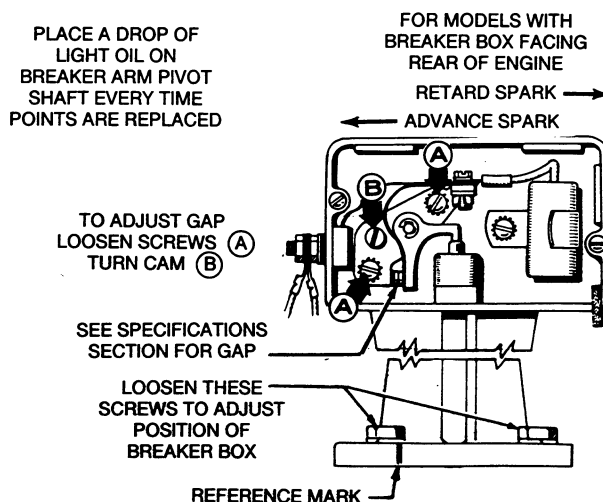

FIGURE 23. BREAKER POINTS
4. Turn flywheel in a clockwise direction approximately 1/4 turn after top center (TC).
5. To adjust gap, refer to Figure 23. Loosen screws (A) and turn cam (B) until point gap measures specified gap with a flat thickness gauge. Retighten screws (A) and recheck gap.